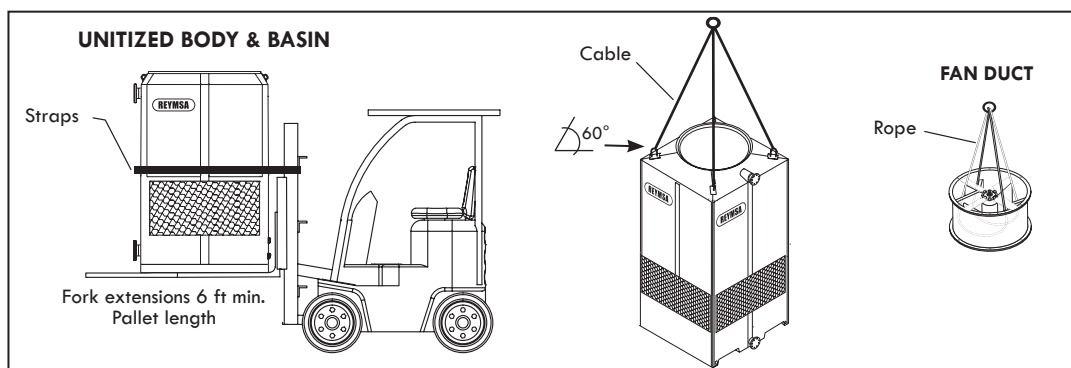

Figure A-34: Single Fan Tower fork and crane lifting
- B. After verifying the equipment is received in proper condition, proceed to unload it piece by piece, with a crane or forklift of the appropriate capacity (see Figure A-34 for reference).
- D. For crane lifting, it's recommended to use a minimum lifting angle of 60° between the strap and the horizontal. The Tower has U-bolts for lifting, one on each corner. Place the straps through the u-bolts (as shown in Figure A-34) and use a spreader bar to avoid damage on the upper edge of the Tower. Don't balance until tensing the straps.